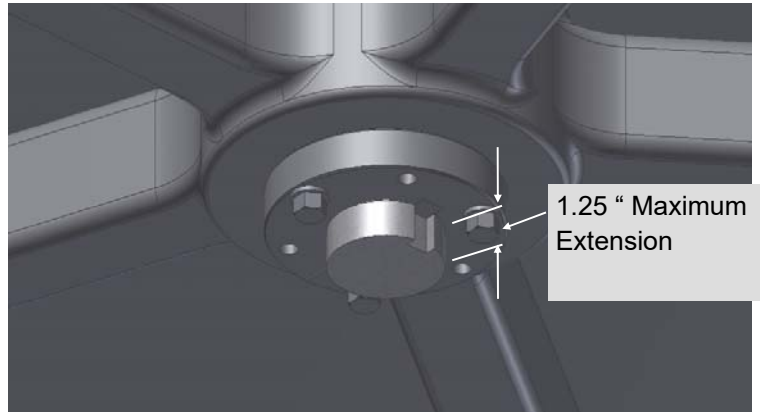

Figure 1. Maximum shaft extension.
STEP 1: Refer to **Figure 1**.